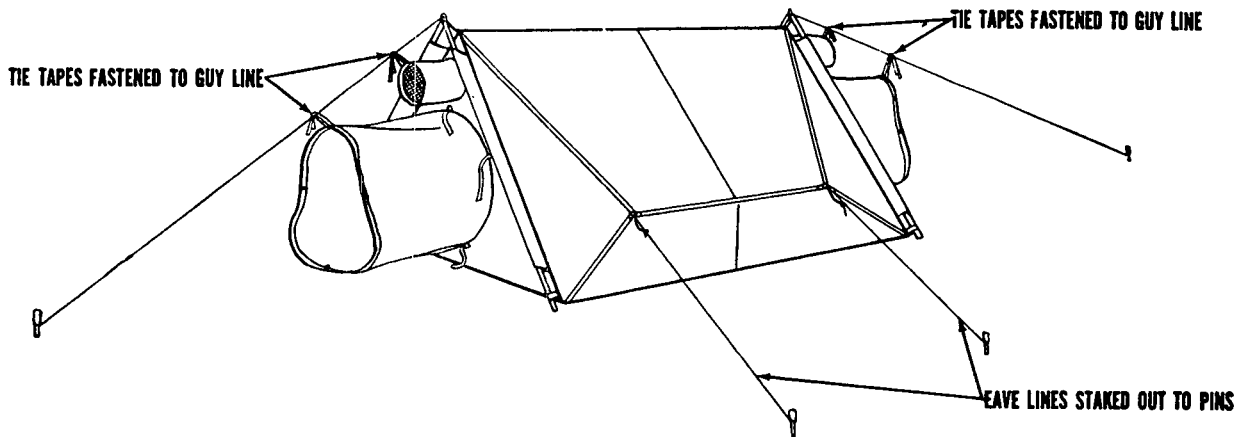

Figure 46. Steps in pitching tent, mountain, 2-man.
- (1) *Preliminary procedures* (1, fig. 46).
- (2) *Inserting poles through loops and sleeves and attaching adapters* (2, fig. 46).
- (3) *Raising front end of tent* (3, fig. 46).
- (4) *Raising rear end of tent* (4, fig. 46).
(5) *Tying ventilator and entrance tie tapes to guy lines and staking out eave lines* (5, fig. 46).